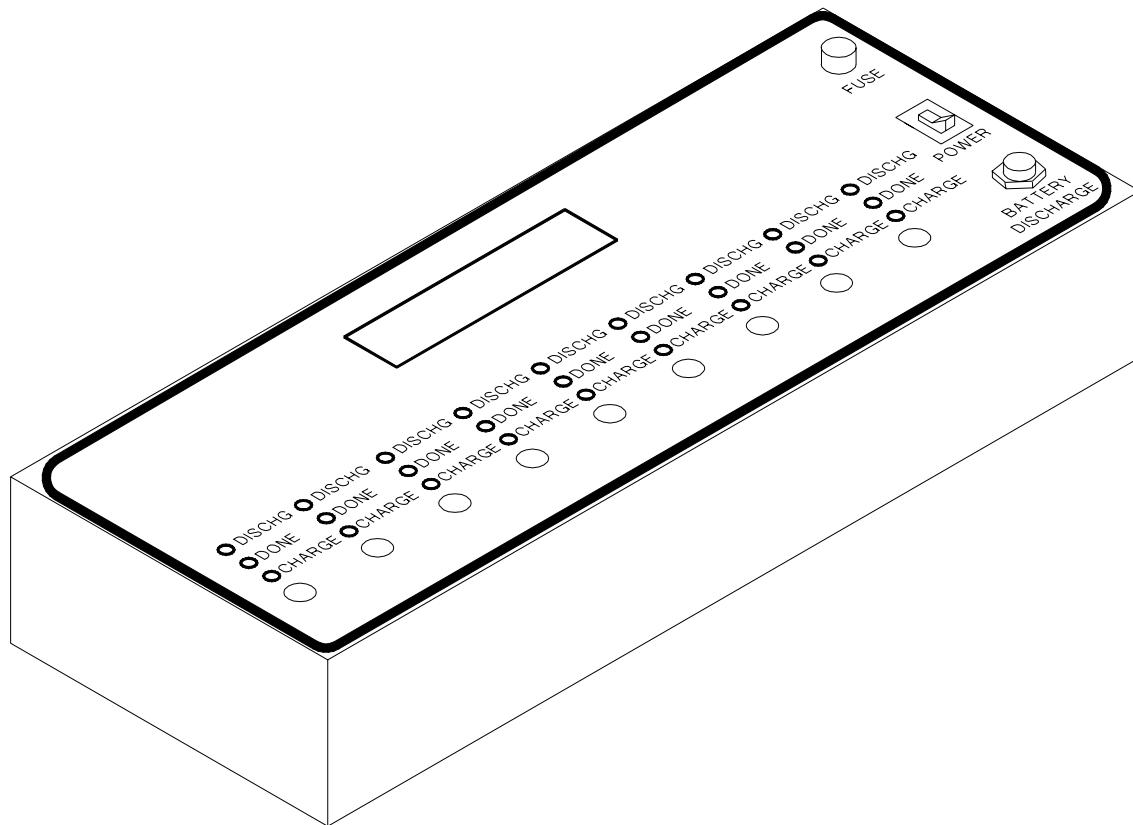

Figure 2-4 Battery Charger Assembly.
2.6.1. Figure 2-4. Provides the front panel lights, and switch position on the Battery Charger Assembly. The unit is sealed at the Manufacturer or repair depot and should not be opened during field activity.